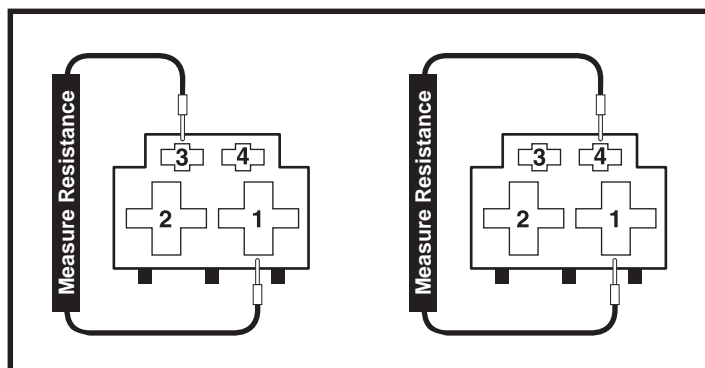

Figure 34. Connector 9a
2. Measure resistance from pin 1 to pin 3, then pin 1 to pin 4 on connector 9a. **See figure 34.**
- *If your multimeter indicates an open for both tests, then replace the power module (2) and retest the system.*
- *If your multimeter indicates less than 1 ohm for either test, then replace the left motor (9) and retest the system.*